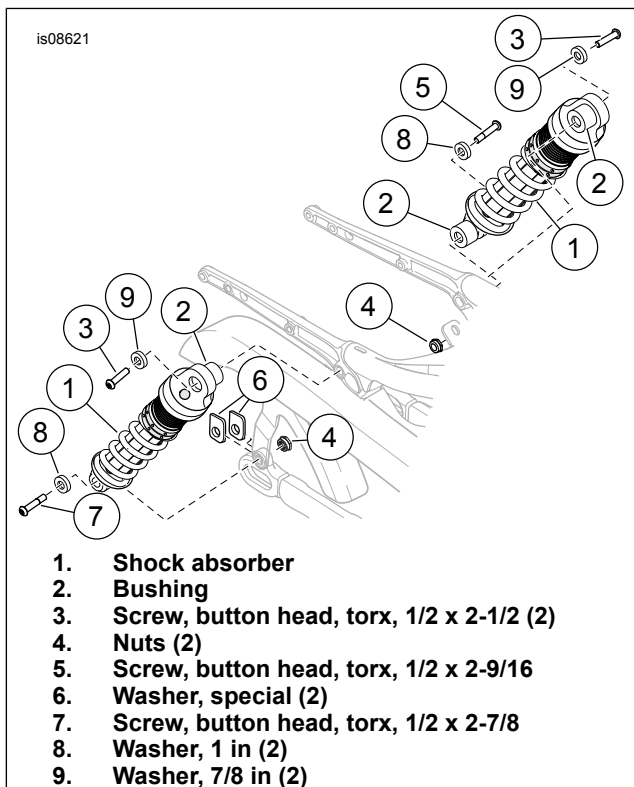

Figure 1. Rear Shock Absorber Installation
1. See Figure 1. Loosely install upper shock mounting bolt (3) to **Both Sides**: Position the bushing (2) facing the inboard side. Install upper shock eye to frame:
- a. Verify bushing (2) is toward vehicle.
- b. Slide lower mounting bolt (7) through washer (8) and bottom shock eye.
- d. Slide lower mounting bolt through one special washer (6).
- f. Slide lower mounting bolt through one special washer (6).
- g. Apply Loctite 243 (blue) to lower shock bolt. Install nut (4).
The lower right side mounting bolt on Japan models must be inserted from inside the rear fork (Opposite of what is shown in Figure 1). Removal and installation of rear wheel is needed for this step.